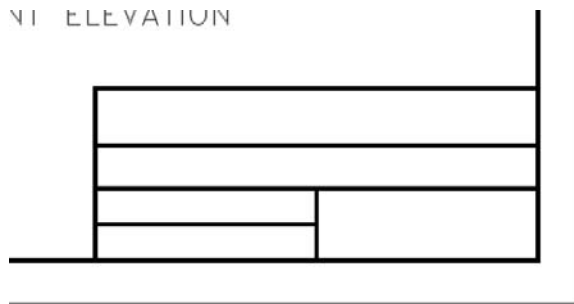

FIGURE 10.27: The completed lines of the title block after zooming out
5. Zoom Previous once. Then use Realtime Zoom to zoom out just enough to see the FRONT ELEVATION text at the top of the screen (see Figure 10.27).